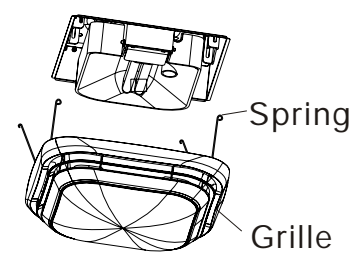

Fig.16
5. Squeeze grill springs and insert them into slot on each side of scroll. Push grill against ceiling. (Fig.16)